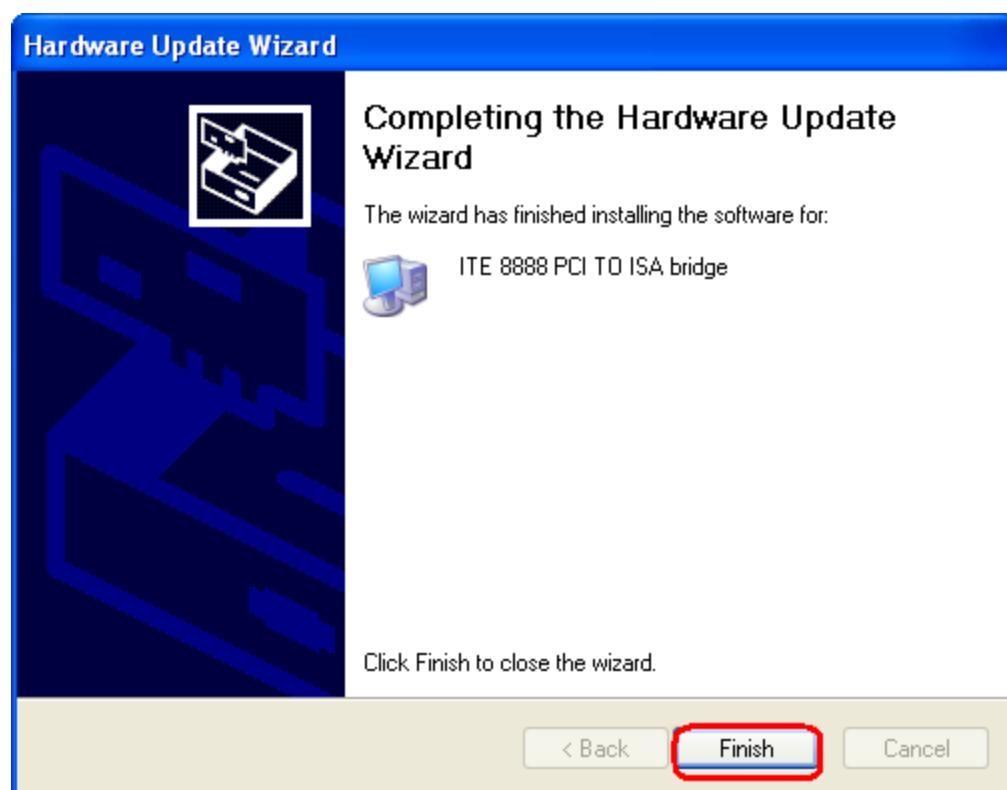

Figure 7-47: Other PCI Bridge Device Controller Driver Installation Complete
Step 85: When the driver is installed, the screen in **Figure 7-47** appears.
Step 86: Click the Finish tab in to complete the **Figure 7-47** installation.